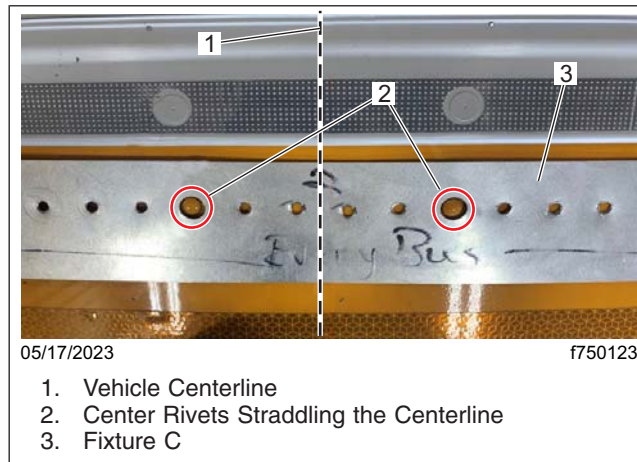

Fig. 19, Two Rivets Straddling the Centerline
- If the roof joint has two rivets straddling over the centerline of the vehicle, as shown in Fig. 19, use fixture C (TBB 242525).
27. The center rivet(s) should fit securely in the medium-sized hole, located near the center of each fixture, as shown in **Fig. 19**.